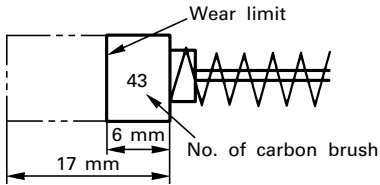

Fig. 27
4. Inspecting the carbon brushes (Fig. 27)